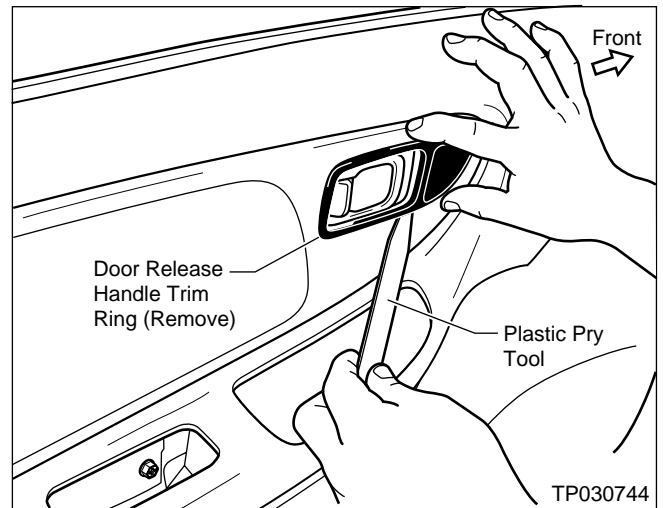

Figure 5
5. Use a Plastic Pry Tool to carefully remove the Door Release Handle Trim Ring (see Figure 5).